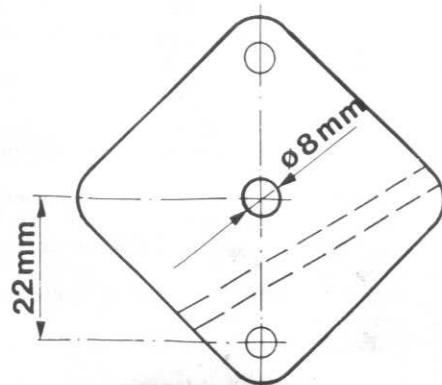

Fig. 13.11 Hole position in control pressure regulator bracket (Sec 7)
- 17 Drill a hole in the middle of the bracket as shown in Fig. 13.11. Deburr or countersink the hole.